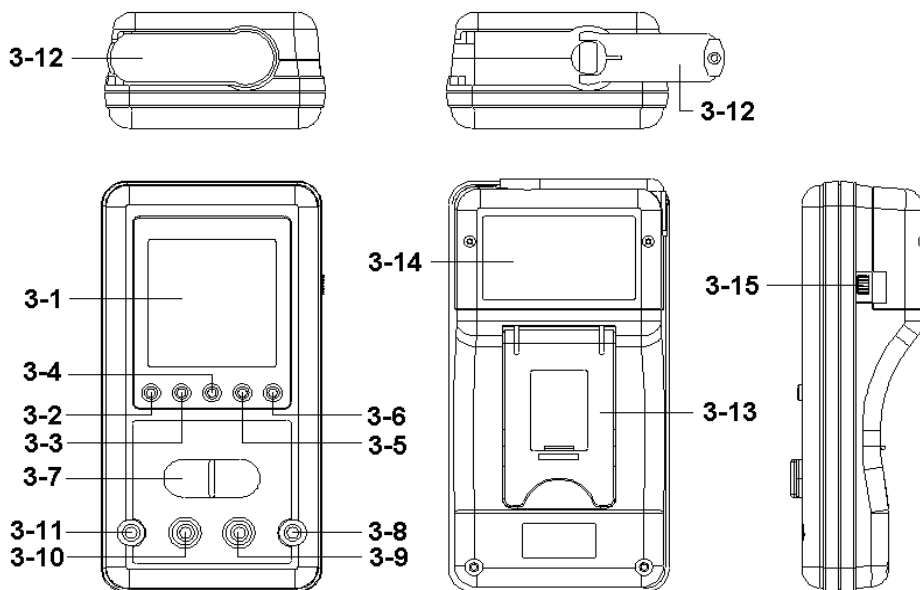

Fig. 1
- 1) Select the " Power type switch " (3-15, Fig. 1) to the " G position " (Green power position).
There is a " Power generator's handle " (3-12, Fig. 1) on the top of the housing case.
- 1) Install the " DC3V battery (CR-2032) x 2 PCs " into the " Battery compartment " (3-14, Fig. 1)
- 1) Pressing the " Power On button " (3-2, Fig. 1) once, the meter will be power On.
- 1) Connect BLACK test lead into " COM " terminal (3-9, Fig. 1).
- 2) Connect RED test lead into " V " terminal (3-8, Fig. 1).
- 3) Select the " Function switch " (3-7, Fig. 1) to the " V " position.
- 4) Power On the meter by pressing the " Power On button " (3-2, Fig. 1) once, the Display will show " SMART ", the meter is under " Smart " mode for voltage measurement.
- 2) Connect RED test lead into " Ω " terminal (3-8, Fig. 1).
- 3) Select the " Function switch " (3-7, Fig. 1) to the " Ω " position.
- 4) Power On the meter by pressing the " Power On button " (3-2, Fig. 1) once, the Display will show " SMART ", the meter is under " Smart " mode for resistance measurement.
- 3) Select the " Function switch " (3-7, Fig. 1) to the " $\bullet \rightarrow$ " position.
- 4) Power On the meter by pressing the " Power On button " (3-2, Fig. 1) once, the Display will show " SMART ", the meter is under " Smart " mode for Continuity measurement.
- 3) Select the " Function switch " (3-7, Fig. 1) to "  " position.
- 4) Power On the meter by pressing the " Power On button " (3-2, Fig. 1) once, the Display will show " SMART ", the meter is under " Smart " mode for Diode measurement.
- 3) Select the " Function rotary switch " (3-7, Fig. 1) to the " || " position.
- 4) Power On the meter by pressing the " Power On button " (3-2, Fig. 1) once, the Display will show " SMART ", the meter is under " Smart " mode for capacitance measurement.
- 2) Connect RED test lead into " mA " terminal (3-10, Fig. 1).
- 3) Select the " Function switch " (3-7, Fig. 1) to the " mA " position.
- 4) Power On the meter by pressing the " Power On button " (3-2, Fig. 1) once, the Display will show " SMART ", the meter is under " Smart " mode for AC mA, DC mA measurement.